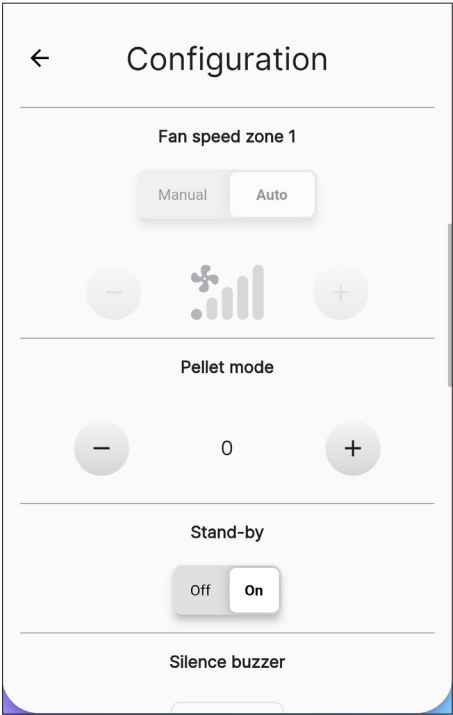
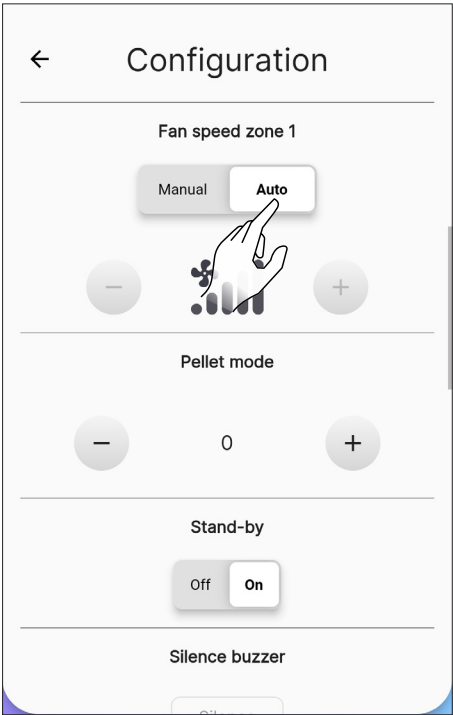

Fig. 10.11
Fig. 10.12
**i** This function can only be used with the stove on (Fig. 10.12), otherwise it cannot be changed (Fig. 10.11).